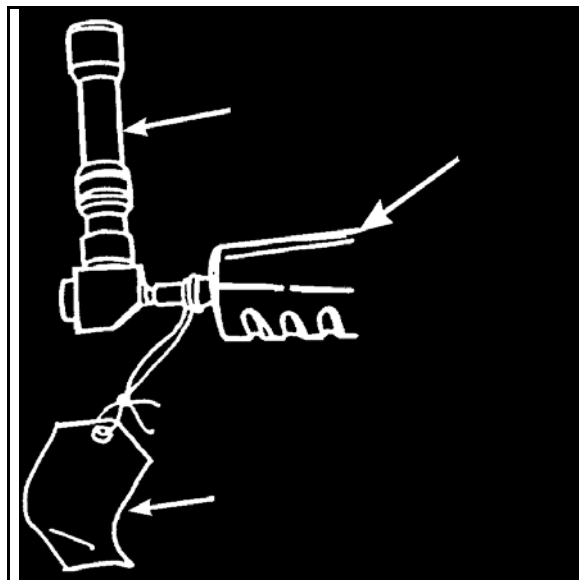

Figure 4. Boresight kit.
12. *Helper:* Install the 25-mm boresight kit (Figure 4).